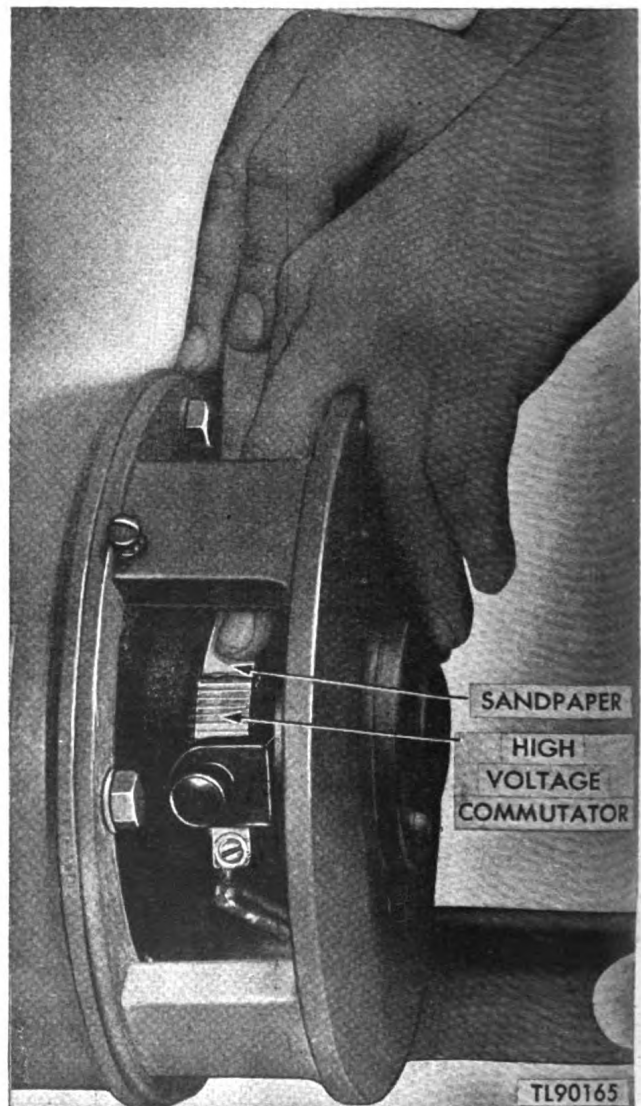
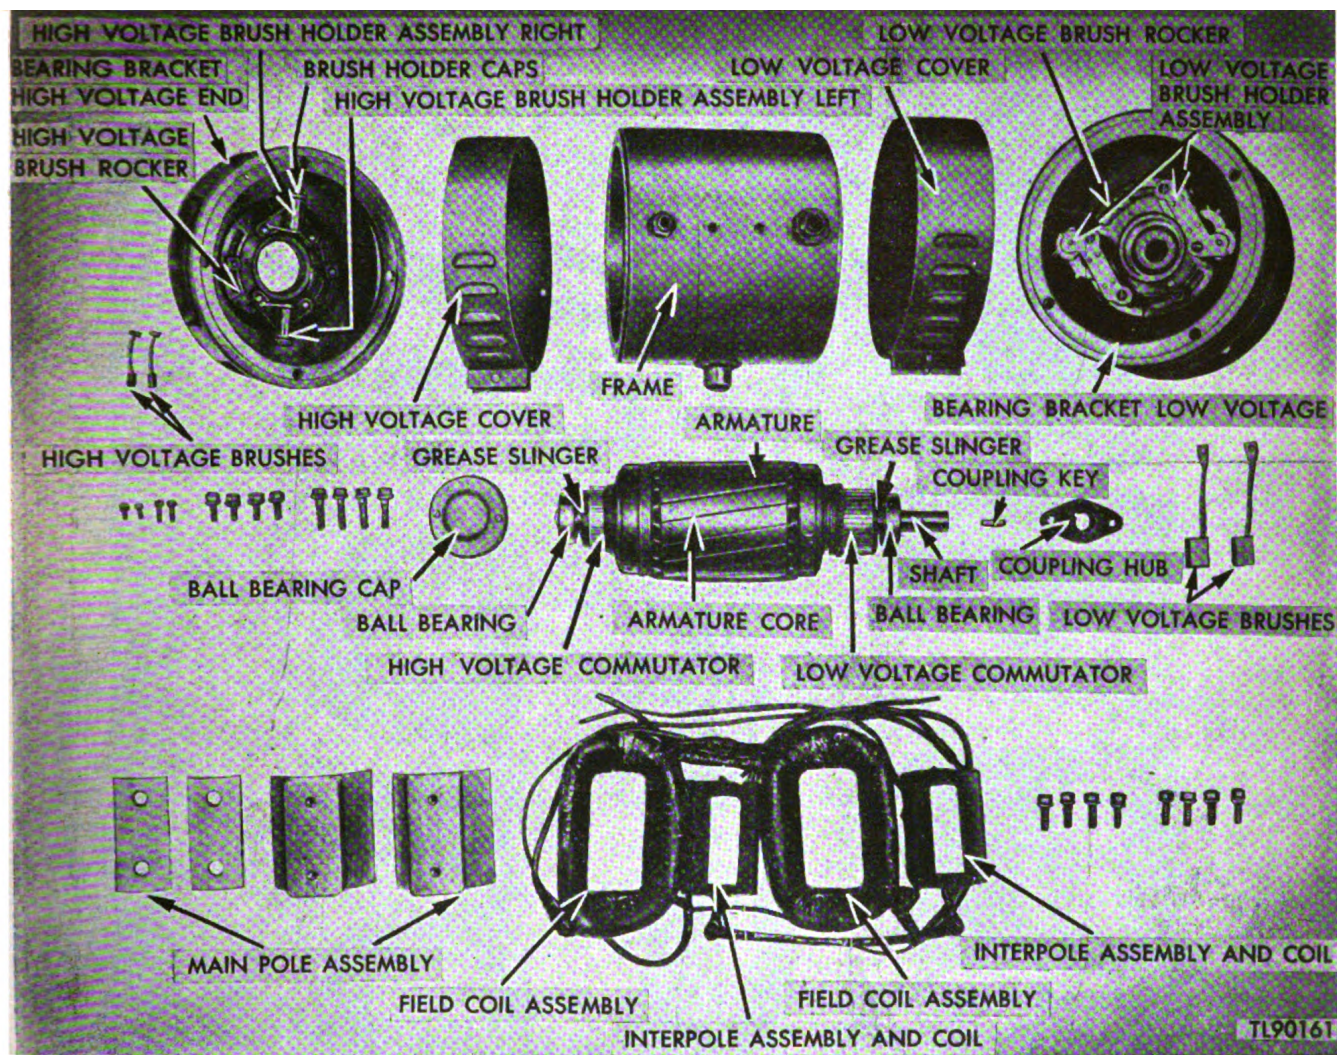
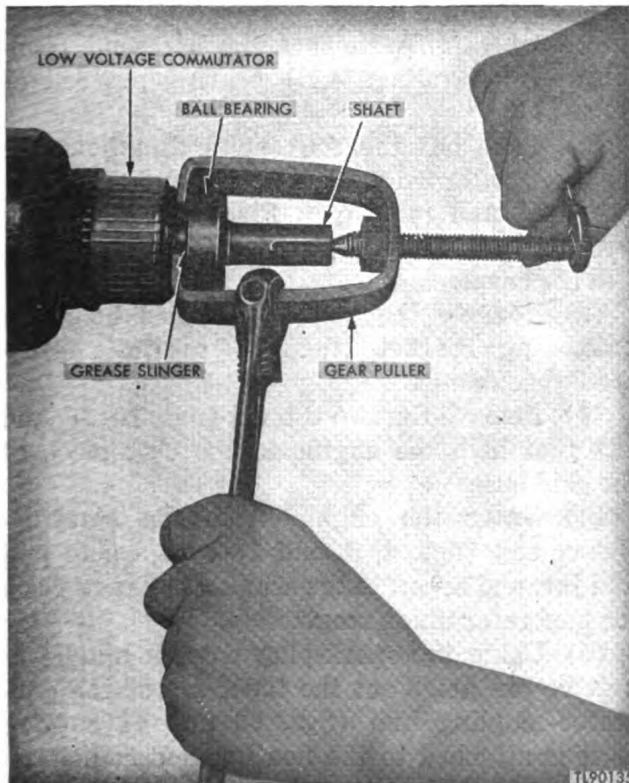

Figure 89. Sanding the commutator.
Figure 90. Generator GN-39-D or GN-39-F—disassembled.
Figure 92. Removing the generator bearing.
a. The rotating armature (figs. 90 and 91(802)) of the generator is mounted on grease-sealed ball bearings at each end. (See figs. 90 and 91(828).) If unusual wear or damage occurs, replace the bearings. (See pars. 103 and 104.)
b. To inspect the high-voltage generator brushes, remove the high-voltage end cover. (See figs. 90 and 91(825).) Unscrew the two insulated brush caps and remove the brush and spring assemblies. (See figs. 90 and 91(820).) Check to see that the brushes move freely in their holders and that they are not excessively worn. Check the brush contact surface and if the contact surface is badly worn or
c. Check the high-voltage commutator (figs. 90 and 91(85)) and see that it is clean and free from pits. If the commutator is slightly dirty, clean it with dry-cleaning solvent (SD). If it is slightly pitted, clean the surface of the commutator with #00 sandpaper. (See fig. 89.)
d. Remove the ventilating band (figs. 90 and 91(826)) at the engine end of the generator and inspect the low-voltage brushes (figs. 90 and 91(824)). These brushes are held in box-type brush holders and the brushes may be easily removed. Check the brushes in the same manner as in checking the high-voltage brushes and replace any that are not in serviceable condition. If the brushes must be replaced, disconnect the pigtail connector before removing the brush.
f. Check the low-voltage commutator (figs. 90 and 91(886)) in the same manner as the high-voltage commutator.
g. If either commutator is badly pitted or burned, it will be necessary to remove the armature (figs. 90 and 91(802)) and turn down the commutator surface in a lathe. If there is high mica between the commutator bars, undercut the commutator as shown in figure 70.
b. REPLACEMENT OF ARMATURE. (1) If it is necessary to replace the armature, remove the back-end (coupling or low-voltage end) bearing. (See par. 104.)
(2) Remove the strap cover and the brush-holder caps. (See fig. 90.)
(3) Before removing a high-voltage brush, mark one side of the brush, or note which side is up, so it can be replaced in the same way in the same holder. Remove the high-voltage brushes and lay them carefully away so that the brush faces will not be damaged or scratched.
(4) Remove the armature by pulling it out through the low-voltage bracket end. (See fig. 90.)
(5) Remove the ball bearing. (See par. 103.)
(6) Obtain a new armature and replace the bearing on the high-voltage end. Check the original bearing before using it again. If the outer race can be turned smoothly while the inner race is held stationary, and no unusual
(1) Leave the generator coupled to the engine in its regular operating position.
(2) Remove the fan and plate assembly (fig. 52(819)), by taking out the fan pin and the eight screws that hold the fan to the plate (figs. 90 and 91(827)).
(4) Before removing the high-voltage brushes either mark one side of the brush or note which side is up so they can be replaced in the same way in the same holder.
(5) Remove the high-voltage brushes (figs. 90 and 91(820)) and lay them carefully away so the brush faces will not be damaged or scratched.
from side to side, pull the bracket clear of the ball bearing. (See figs. 90 and 91(828).) Be careful not to drop the bracket on the commutator (fig. 52(885)) or armature winding (fig. 52(802)).
(9) Insert the gear puller behind the bearing. (See fig. 92.) Be careful not to damage the commutator mica insulation. Note that one side of the gear-puller clamp has been made thinner than the other in order to easily insert the clamps behind the bearing. The bearing has a grease slinger (figs. 90 and 91(829)) between the inside inner race and the shoulder on the shaft. Do not damage the slinger by carelessly inserting the gear puller behind the bearing. Turn the setscrew by hand until the point is in the center hole of the armature shaft. Use an open-end wrench on the head of the setscrew and while holding the gear puller from turning, screw in the setscrew until the bearing is removed. Do not lose the grease slinger. Wipe it clean before proceeding with the replacement of the bearing.
(1) Carefully clean the shaft and inspect all bearing surfaces for burrs or raised surfaces. If any burrs or raised surfaces are noted, remove them with a file.
(2) Carefully clean the bearing housing and cap. (See figs. 90 and 91(812).) If any burrs are found remove them with a file or the edge of a screw driver.
(3) Clean the rabbet fits of the frame and the bracket by running the edge of a screw driver around the machined surfaces. The projecting part of the armature and shaft should be covered with a clean rag during this operation as considerable grit usually accumulates around the rabbet joint between the frame and bracket.
(4) Check all the parts that were removed during the process of removing the bearing and see that they are in good condition and ready to be put back.
(5) Remove the cardboard box that incloses the new bearing, but do not unwrap the greased paper surrounding the ball bearing.
(6) Be sure hands, the hammer, and the large screw driver are wiped clean.
(7) Partially open the paper wrapping of the new ball bearing and pick up a little grease with the end of one finger. Spread this grease very thinly over the bearing surface of the shaft and on both sides of the grease slinger.
(8) Replace the grease slinger (figs. 90 and 91(829)) on the shaft and push it firmly against the shoulder of the shaft that locates the ball bearing.
(9) Unwrap the ball bearing and push it on the shaft as far as it will go by hand. The inner race should just start on the ball-bearing surface of the shaft.
(10) Place a piece of pipe or bushing against the inner race only of the ball bearing and lightly tap the end of the pipe or bushing with the hammer so that the bearing begins to move on the shaft. Repeat this on the opposite (180° apart) side of the inner race until the bearing moves farther onto the shaft. Always keep as much of the end of pipe or bushing on the inner race as possible and hold the pipe parallel with the shaft. By hitting the inner race from side to side and increasing the power of the hammer blows on the pipe, the bearing will finally be seated against the shoulder of the shaft. Spin the outer race of the ball bearing to see that everything is free.
(12) Before replacing the bracket (figs. 90 and 91(812)), take a last look at the bearing housing to make sure it is clean and the edges free from burs. Push the bearing-housing bore over the ball bearing. Keep the bracket square with the shaft but wiggle the bracket slightly from side to side until the bearing has entered into the housing. Sometimes it helps to strike the bracket evenly on opposite sides of the back, with the heels of the hands until the bracket strikes the frame. Line up the holes of the bracket with the holes in the frame, check to see that the strap-cover ground hole is in the right quadrant, and insert the four cap screws by hand until all are thumbtight. With a wrench, tighten one screw one-half turn and then the opposite screw. Repeat until the bracket is
(14) Replace the brushes (figs. 90 and 91(820)) very carefully in the brush holders (fig. 52(823)). The same brush must go back in the same brush holder with the same side up as before. If there is any doubt that the brushes have not been replaced as before, start the engine and connect the generator to the transmitter. After the transmitter tubes have had a chance to warm up, note the ammeter. (See figs. 10, 11, and 12.) If it reads steady, the brushes are all right. If it fluctuates, the brushes are not properly seated against the commutator.